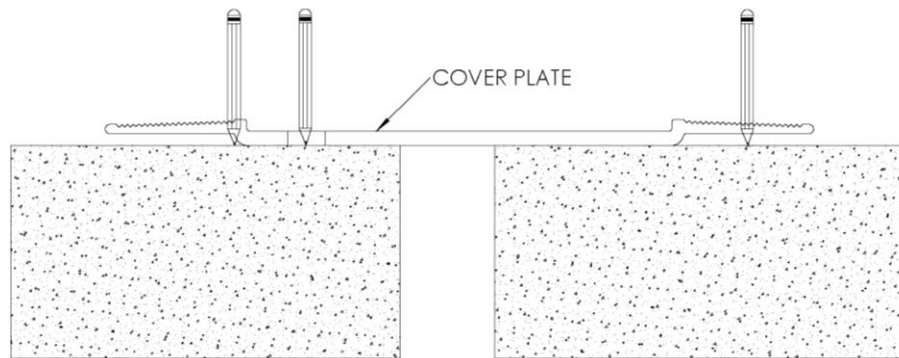

FIGURE 1
1. Position the cover plate over the expansion joint, making sure that the holes in the plate are at least 1-1/4" from the edge of the expansion joint. Mark hole locations and mark 5/8" in from the end of the non-anchored side of the plate. This marks the end of the finished floor on that side of the expansion joint. On the anchored side, mark the location where the offset starts in the plate. This marks the end of the finished floor on that side of the expansion joint. Remove the plate and drill 1/4" holes for the supplied anchors. **See Figure 1.**